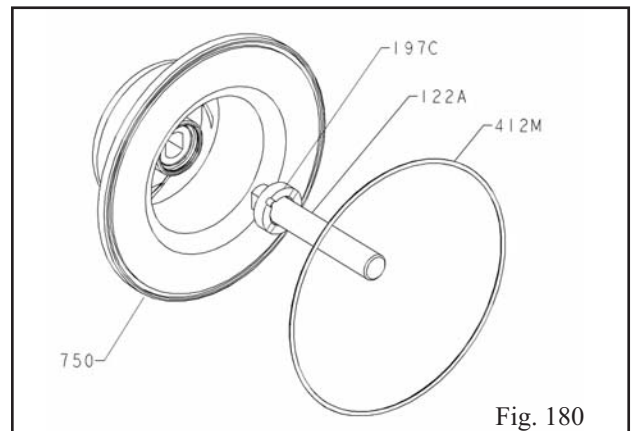
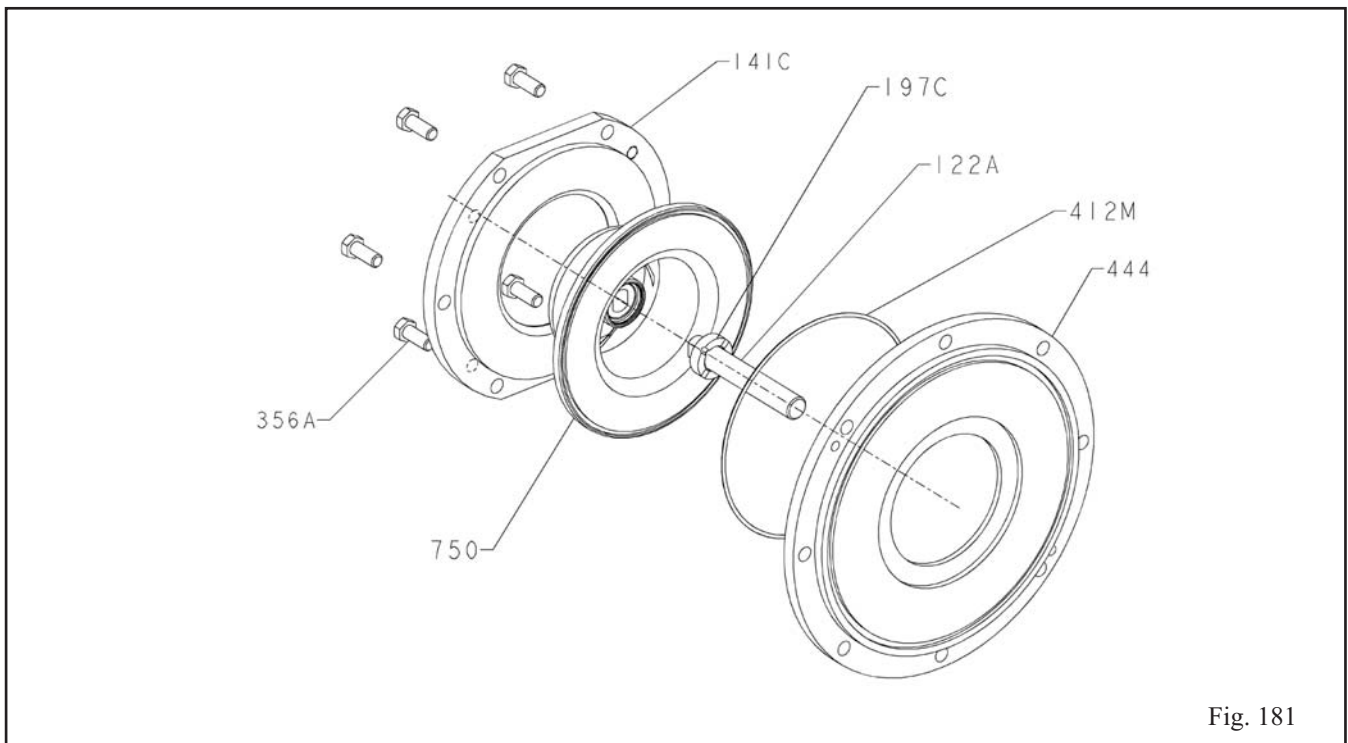

Fig. 180
Fig. 181
8. Coat O-ring (412M) with O-ring lubricant. The lubricant is used to help the O-ring remain in place. Insert O-ring in containment shell (Fig. 180).
9. Place backplate (444) face down on work surface.
10. Place containment shell with reverse thrust bearing in backplate. Place clamp ring (141C) over containment shell and secure with clamp ring bolts (356A) (Fig. 181).